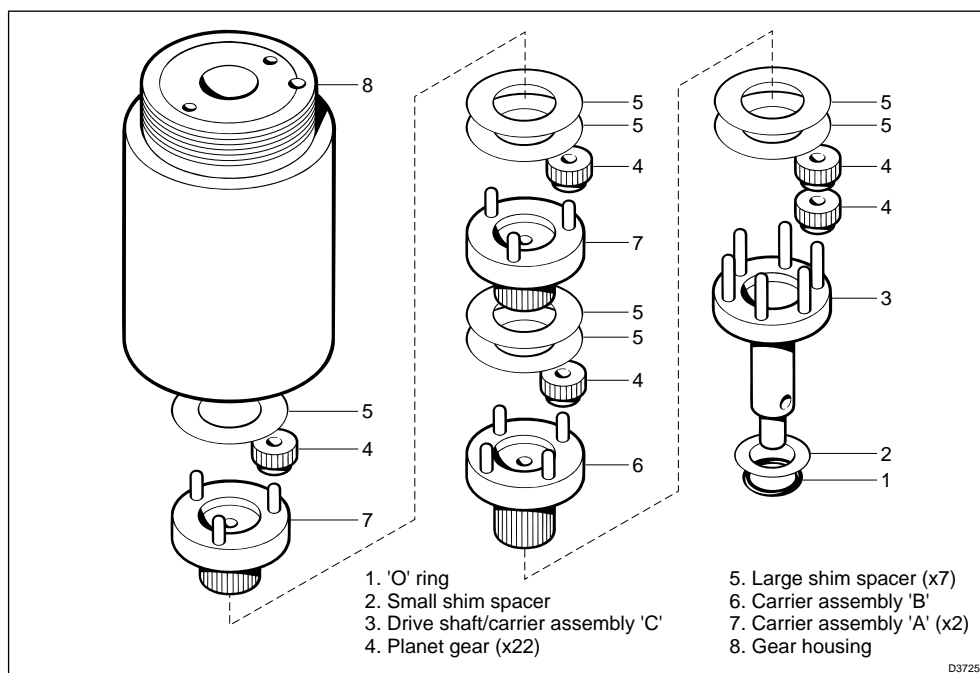

Figure 8. Gearbox exploded view
| 21 | Gearbox drive shaft/gear carrier 'C' | | See Figure 8, item 3 |
| – | Planet gear (x12) | | See Figure 8, item 4 |
| – | Shim | | See Figure 8, item 2 |
| – | 'O' ring | | See Figure 8, item 1 |
1. Rebuild gearbox. Refer to Figure 8. Gearbox exploded view
2. Fix the gearbox (23) to the back mounting plate assembly (2) using the four gearbox retaining screws (22).
3. Slide the two shims (20) over the gearbox drive shaft/gear carrier 'C' (21) and hard up against the back mounting plate assembly (2).
4. Support the gearbox drive shaft/gear carrier 'C' (21) and refit the pin (19).